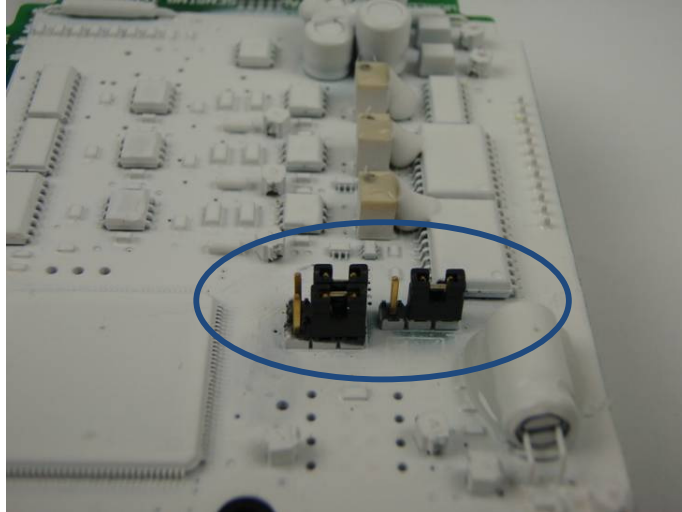

Figure 39: Three Jumpers on Main PCB
- Check that three jumpers are connected in the correct positions on the main PCB. Refer to Figure 39.